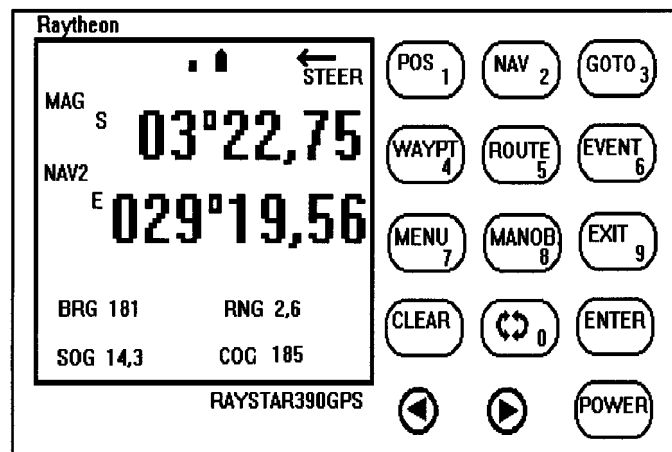

Figure 1: GPS in NAV2-menu.
Wind recording position can be read from GPS in POS-menu. GPS goes automatically to POS-menu, when it is switched on. It can be read also in NAV2-menu by pressing the **NAV/2** key and then the right **black arrow** key. On the right of the display should appear a text, NAV2 (Figure 1). It is recommended to use NAV2 menu, because of its usefulness during the measurement process.
When the exact heading against wind has been reached and the speed of the boat is stable, the recorder calls the measurer to record the wind speed and reads himself the speed and the heading of the boat from the GPS. These are found in the NAV2 MENU. Speed of the boat, kph, is in the GPS display as SOG (Speed Over Ground) in the lower left corner and heading, in degrees, the direction the boat is sailing to, COG (Course Over Ground) in the lower right corner of the display (Figure 1).
If the wind is strong and the boat is drifting fast, the drifting speed of the boat can be calculated and added to the average wind speed. The drifting speed is at maximum few kilometers per hour i.e. 1-1.5 in/s. When the cylinders have been deposited and the engine stopped, recorder presses the **EVENT** key and writes down the memory location. After a floating time of 1-2 hours, the recorder presses the **GOTO** and the **CLEAR** keys and enters the memory location number which was stored before to the GPS and presses twice the **ENTER** key. By pressing the **NAV** key and the **right black arrow** key the drifting distance to the starting position can be read in kilometers (=RNG) (Figure 1). Changing the drifting distance to in/s and adding it to the measured average wind speed the real wind speed can be obtained.
Direction of the wind can be determined by heading the boat against the wind. In NAV2-menu (Figure 1) the heading of the boat, in degrees, is COG (Course Over Ground). It is displayed in the lower right corner of the screen. It is the same as the direction of the wind. Recorder writes it down. After the wind measurements the cylinders can be put in the water.
6) Then he pushes the **NAV** key and the right **black arrow** key. On the left side of the screen appears NAV2 MENU (Figure 1) and he can read now the distance in kilometers (=RNG on the screen) and the direction (=BRG on the screen) to the first buoy's placing position. The direction should be kept the same all the time (for each line there is a specific direction; see Tables 1-3). Skipper can increase the speed following the direction of the line, but the recorder or the skipper himself has to verify that the correct course is kept and to change it if necessary.
5) Recorder presses the **NAV** key and the **right black arrow** key. GPS should now be in the **NAV2** menu (Figure 1).